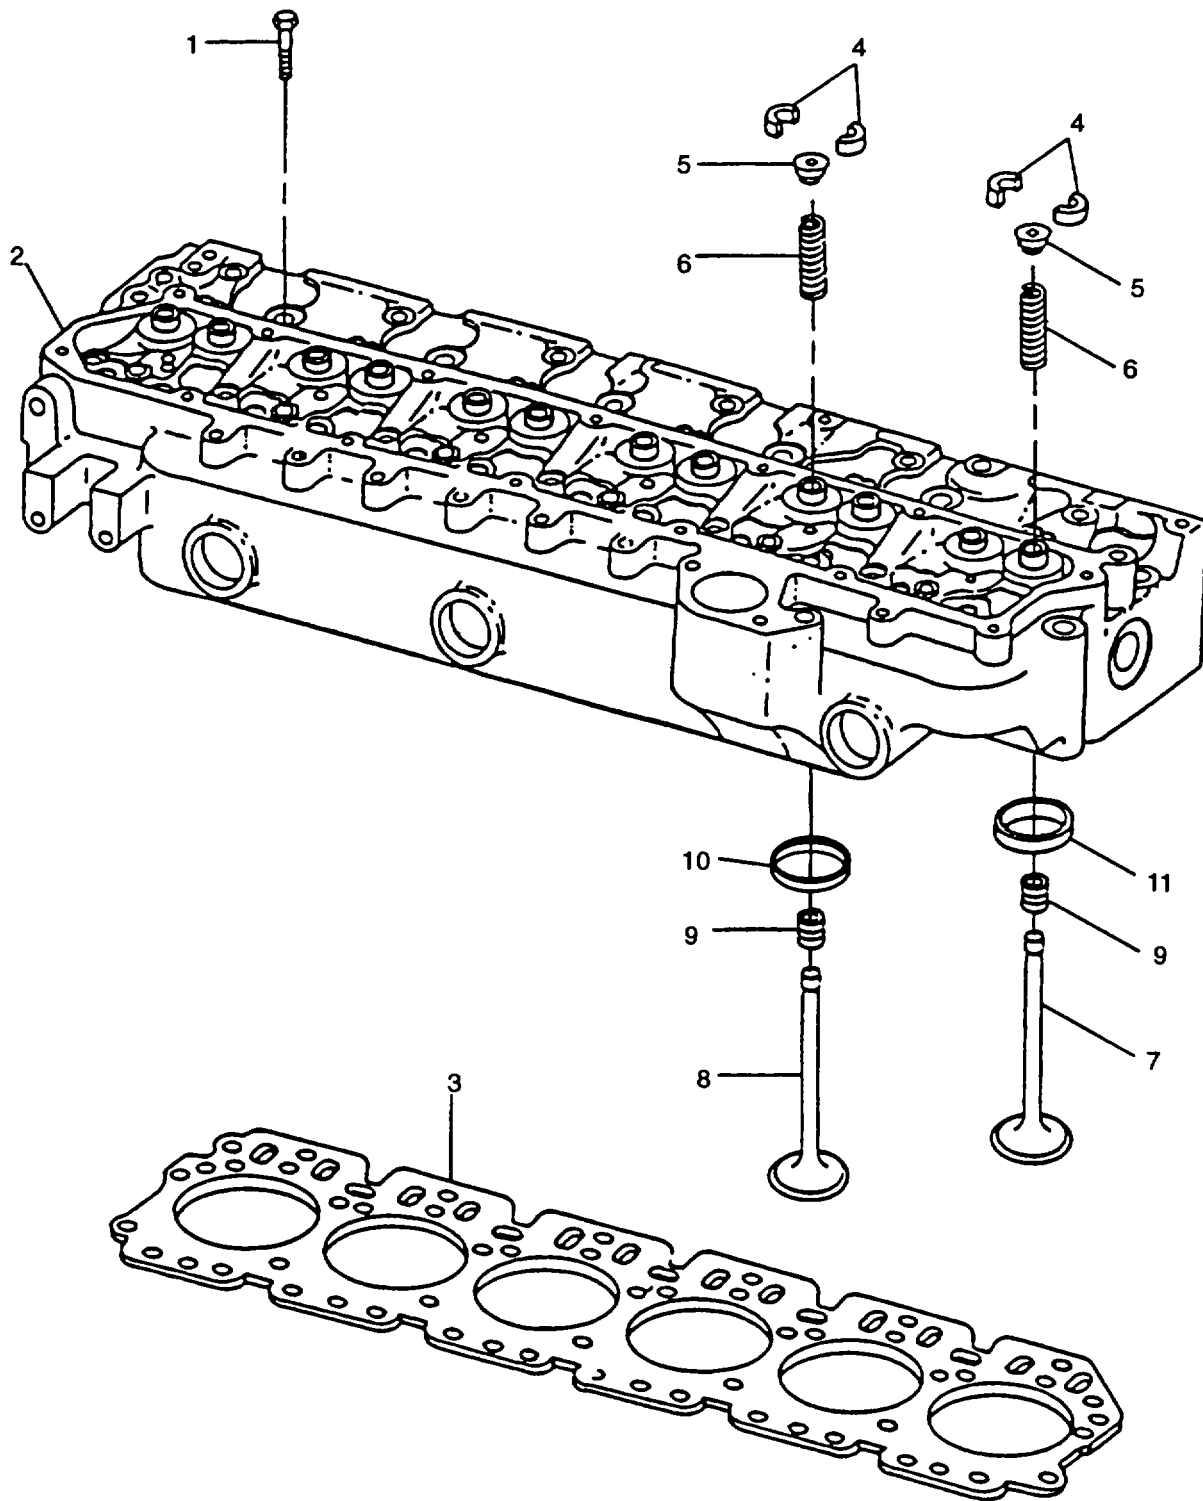

FIGURE 3-119. Cylinder Head Assembly
- k. If a blown head gasket is suspected, check and record each cylinder head capscREW (1, FIGURE 3-119), torque before removing them as follows:
- (1) Make a reference mark (in-line) on head of capscREW and cylinder head surface.
- (2) Loosen capscREW at least 1/2 turn, then retighten capscREW (using a torque wrench) until reference marks align and record torque.
- l. Remove twenty-six capscREWS (1) securing cylinder head to engine block.
Block cylinder head (2, FIGURE 3-119) using a solid block of wood at each end of head for support while using spring compressor to avoid personal injury.